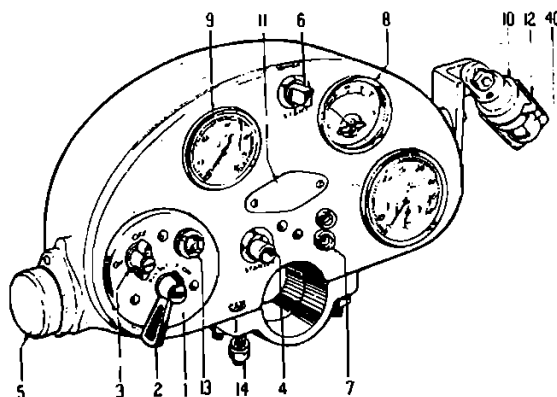

Figure 73. Instrument Panel, Front View
The instrument panel is illustrated in Fig. 73 and incorporates a switch board (1) from which connections to the driving lights are taken through the main fuse box. The control switch is of the rotary type and makes contact with the various terminals as it is turned to the positions indicated on the face plate.